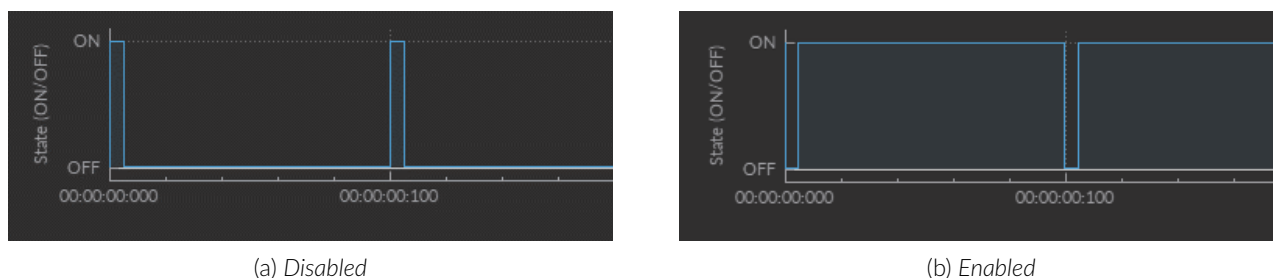

Figure 9.20: Inverted Output
3. The **Inverted Output** checkbox (Fig 9.18, 3), when enabled, will convert every 0 to 1 and 1 to 0, such as in Fig. 9.20.